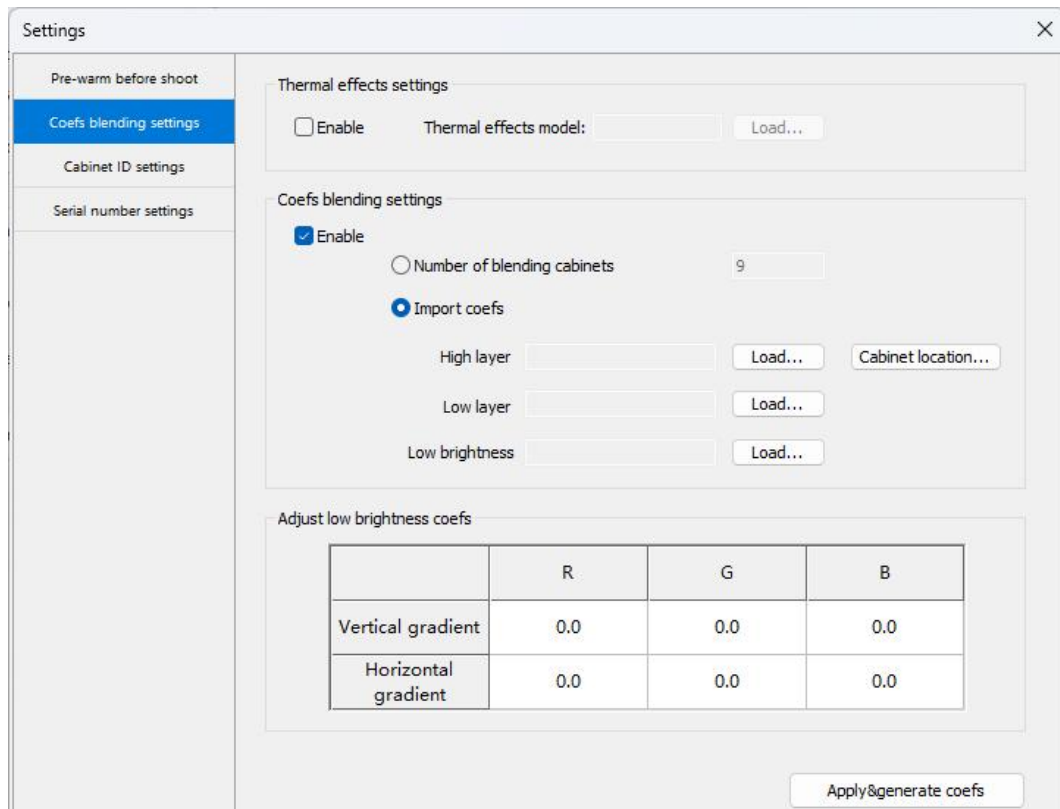

Fig.3-106 High and low brightness coefficients blending settings
- Perform high and low brightness calibration at a time: Select **Coefs blending settings** to access the tab. See Figure 3-106.